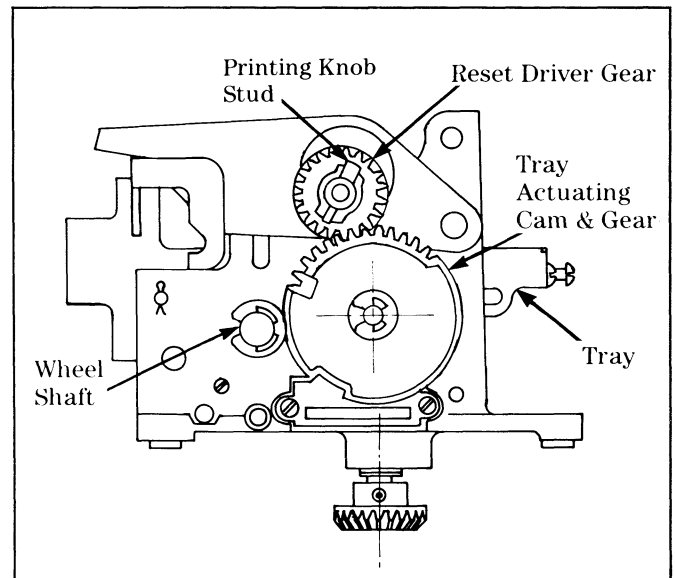

Figure 5. Tray Actuating Train (Accumulative)
- a. As the printing knob is turned, the reset drive gear, Figure 5, makes one complete clockwise revolution until a positive stop is reached. As the ticket tray moves into position, by means of the tray actuating cam and gear, the seal pin pierces the ticket, holding it in place. This initial printing is made with wheels as they were at the completion of the last delivery.